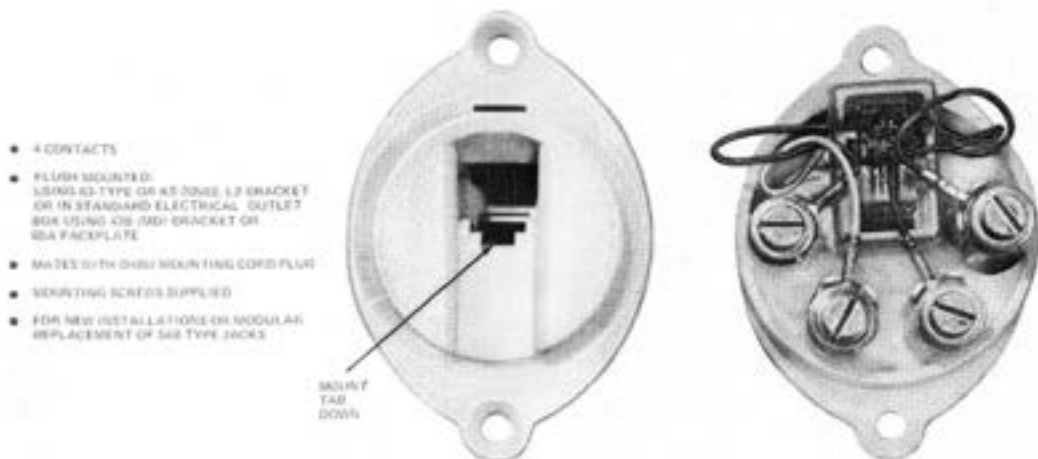

Fig. 5—625F Connecting Block (Without Mounting Hardware)
- Block, Connecting, 625F (Fig. 5)
2.07 The **625F** connecting block (Fig. 5) is equipped with four screw terminals and is intended for use in new installations requiring a flush-type connecting block or for modular replacement of 548A jacks or 47F connecting blocks. It does not include the 65A faceplate and mounting bracket (Fig. 15) which must be ordered separately. The 625F connecting block is available in olive gray (-49), ivory (-50), and brown (-54).